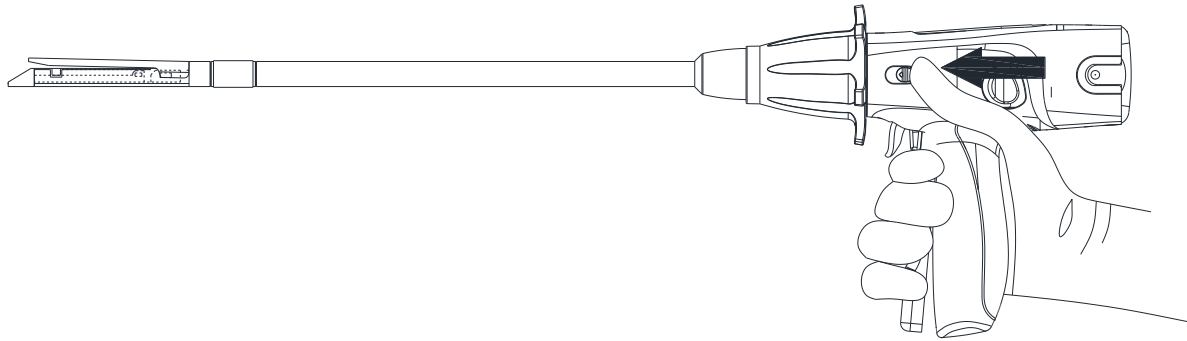
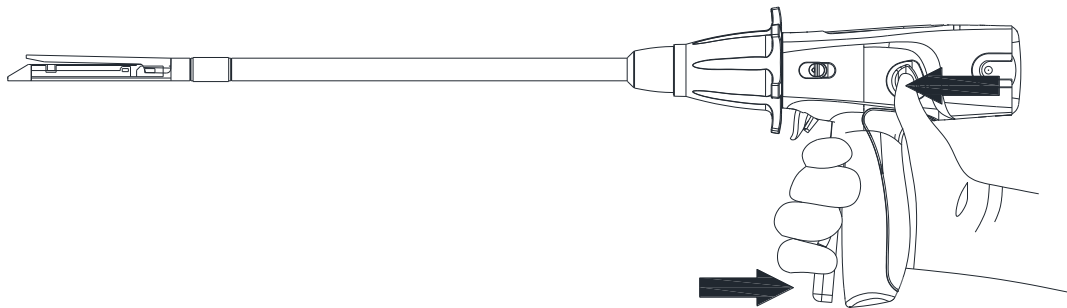
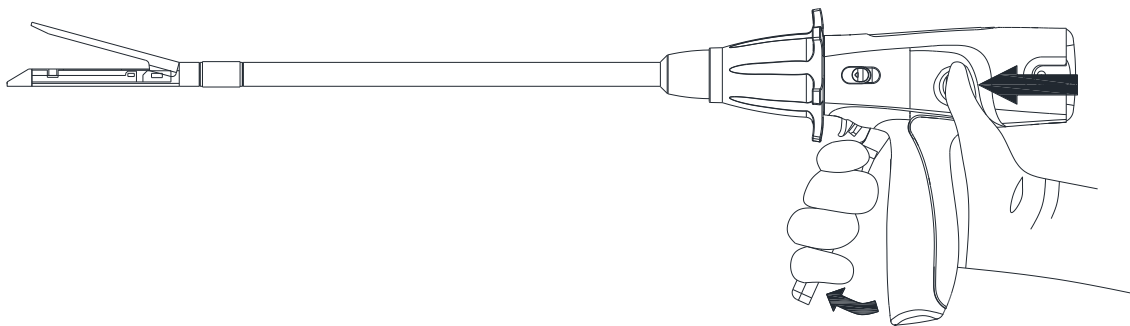

Figure 3-7
Figure 3-8
Figure 3-9
Note: When placing the device through the Trocar or incision, avoid inadvertently pulling the red firing safety switch and firing trigger. The device may be partially or completely fired and will need to be reloaded before being used on the tissue. If the device has been partially fired, take out the device, slide the knife reverse switch forward to return the knife to the original position (Figure 3-7). To open the jaws, squeeze closing trigger, and then simultaneously press the reset button on either side of the device (Figure 3-8). Slowly release the closing trigger while maintaining pressure on the reset button (Figure 3-9). Remove the cartridge and insert a new cartridge (see Device Reloading).
- a) First, ensure that the primary lithium battery pack is firmly installed and that the device has power (Figure 3-10); then, try the knife reverse switch again (Figure 3-7).
- 3) Once the device enters the body cavity, squeeze the closing trigger, and then simultaneously press the reset button on either side of the device (Figure 3-8). While maintaining the pressure on the reset button, slowly release the closing trigger, reopen the jaw, and return the closing trigger to the original position (Figure 3-9).